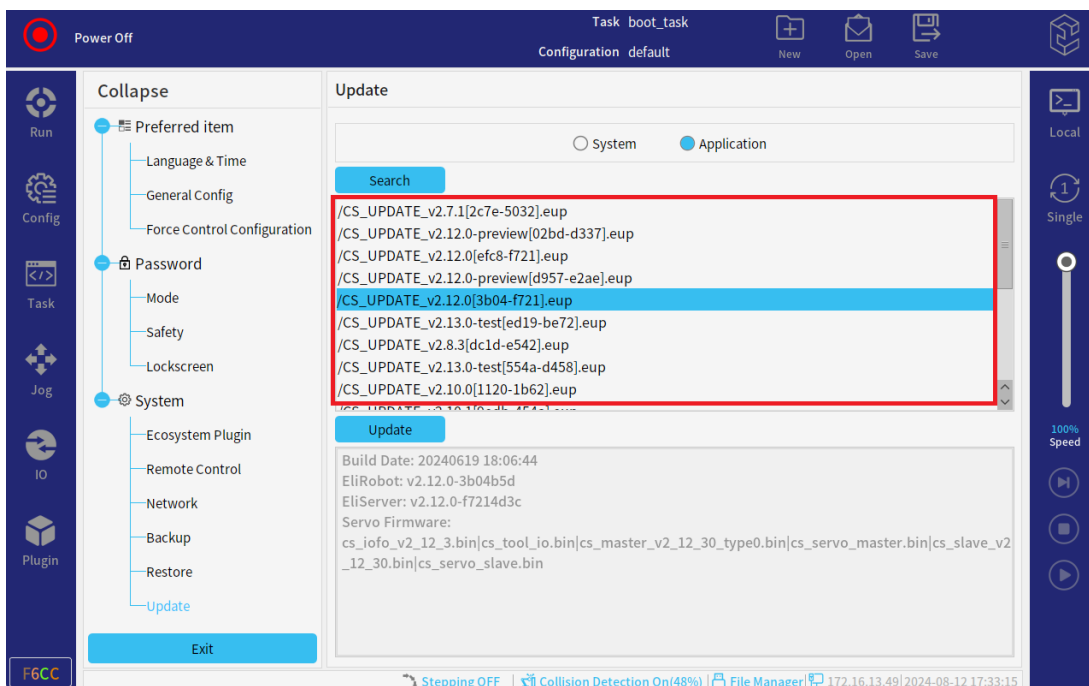
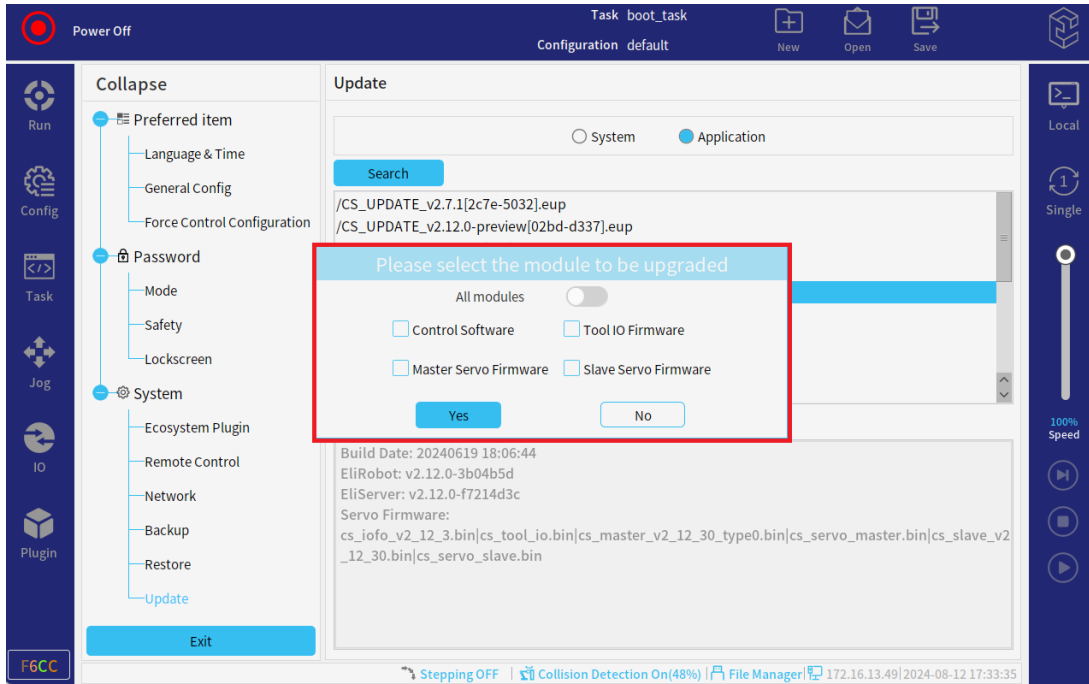
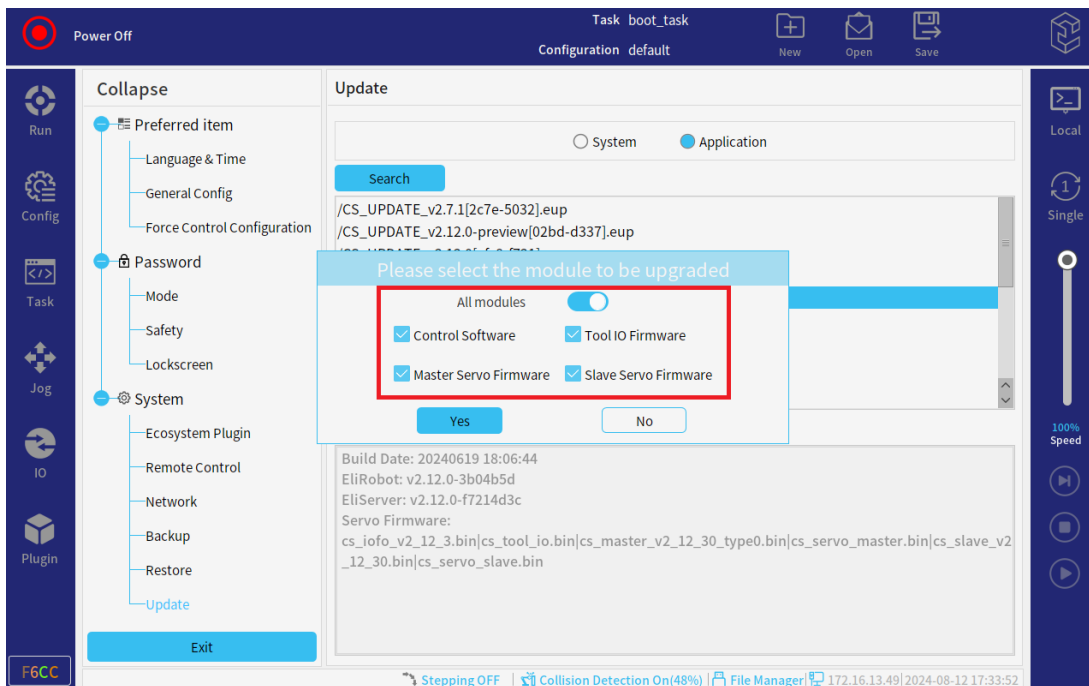
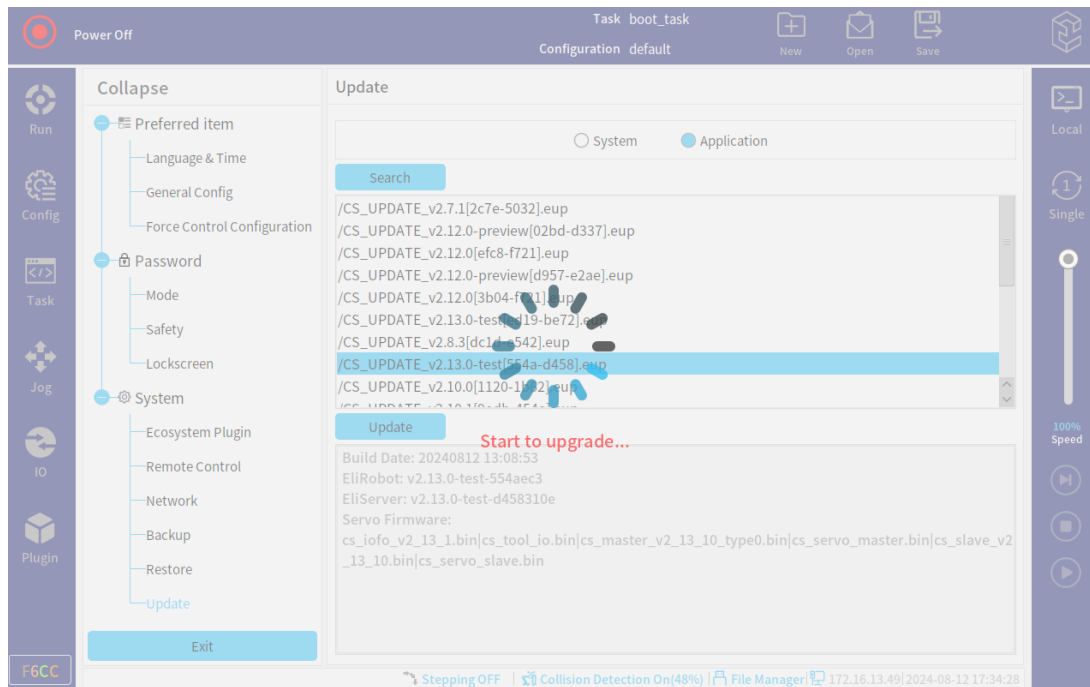

Figure 3-29 : Application update
Figure 3-30 : Select module
Figure 3-31 : Select all modules
Figure 3-32 : Application updating
- Application Update: click "Search" to search for a one-stop upgrade package with the suffix. eup, as shown in **Figure 3-29**. Click "Update" to select the upgraded modules as required, or click to select all modules, as shown in **Figure 3-30** and **Figure 3-31**, and then click "OK" to update, as shown in **Figure 3-32**.